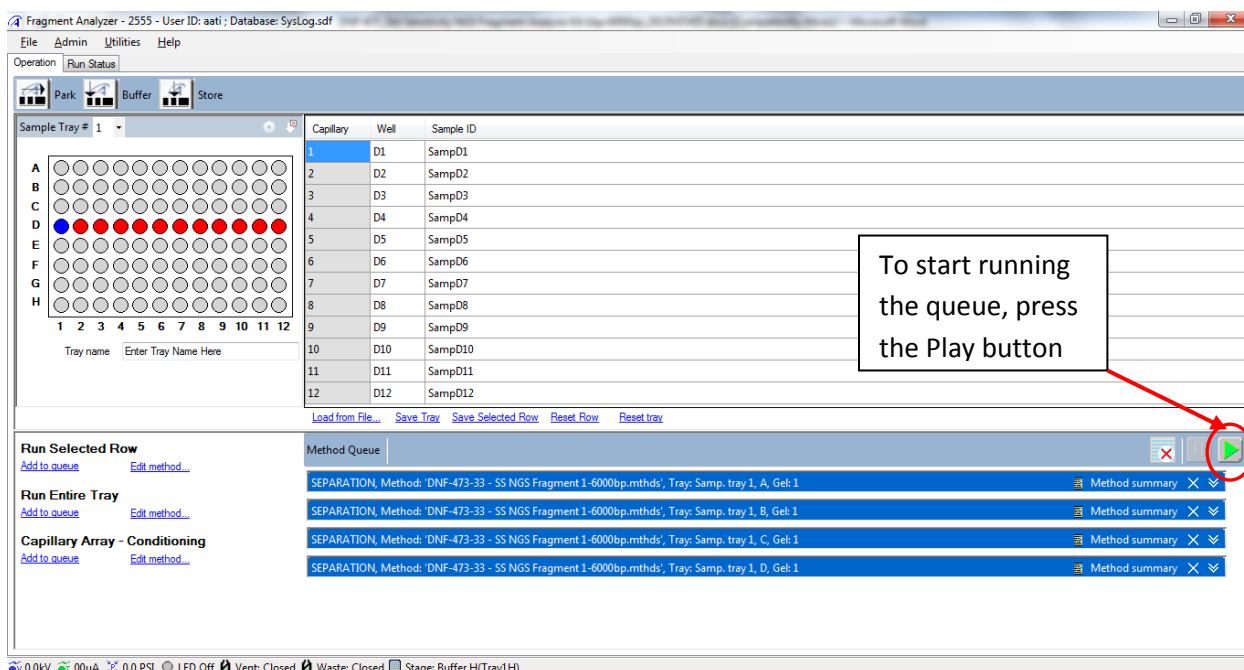

Figure 5. Main Screen after selection of samples to the run queue.
12. After a row or tray has been added to the queue, the method(s) will be listed on the main screen under the **Method Queue** field (Figure 5).